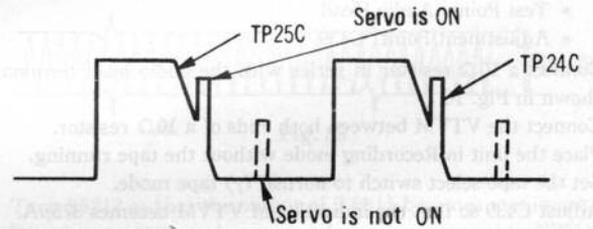

Fig. 11
3. Set R1120 to center portion, and make sure that the servo is ON as shown in Fig. 11.
13. Make sure that servo is ON as shown in Fig. 11.
3. At this time, make sure that capstan servo is ON (Refer to Fig. 11).